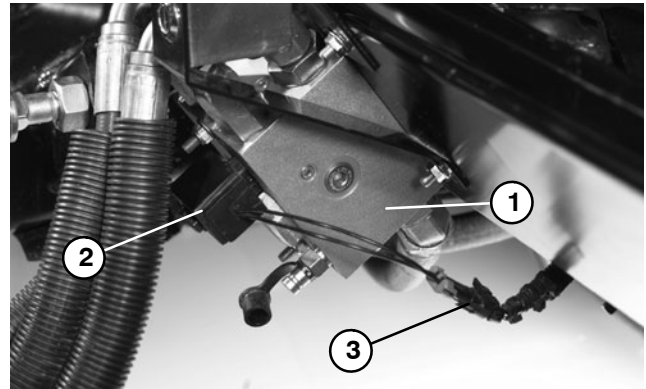

Figure 24
1. Make sure engine is off. Disconnect wire harness connector from the solenoid (Fig. 24).